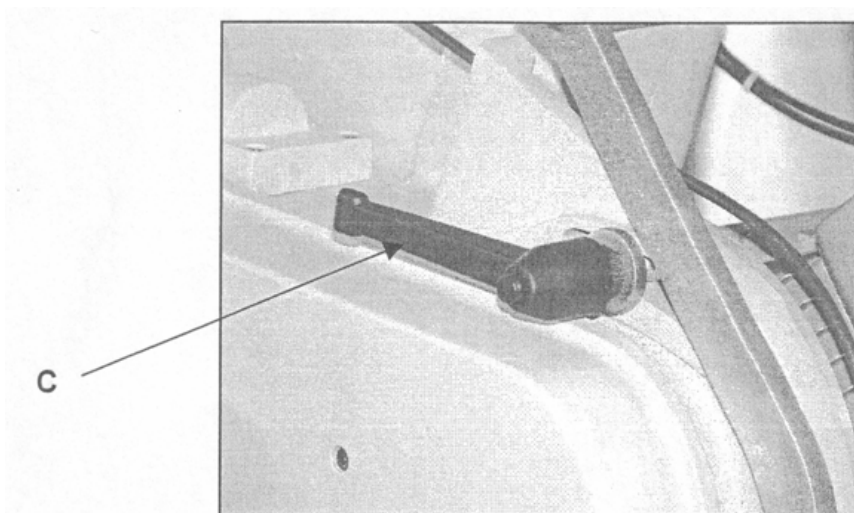

Fig. 8
1. Release the motor by loosening the lever in Fig. 8 part C.